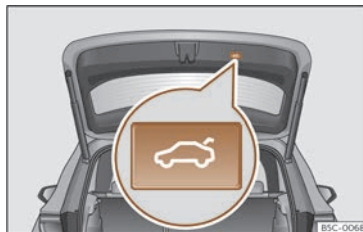

Fig. 76 Rear lid: button to close rear lid.
OR: press the button on the rear lid >>> **Fig. 76.**
- Briefly press the  button on the rear lid >>> Fig. 76, >>>  in *Introduction* on page 97.
Throughout the process of opening or closing the rear lid, acoustic warnings can be heard. *Exception:* when the rear lid is opened manually using the handle or the Easy Open function with the movement of the foot or closed using the button on the rear lid itself >>> Fig. 76.
- Press the  >>> Fig. 76 button on the rear lid for at least 3 seconds.